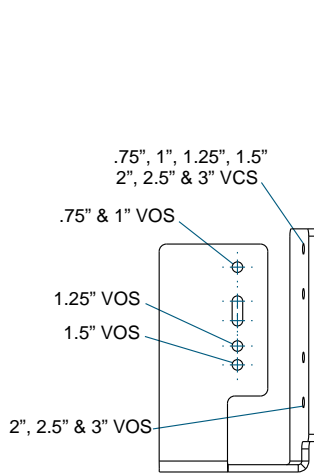

Figure 2:
- Note wand position and mounting hole location. Carefully remove the 2 screws and lift existing switch. --Reference Figures 2 through 7 (page 10-30.3-35) to ensure correct switch location.
- Reference Figures 2 through 7 to ensure correct switch location. Valve size is depicted in the model number by the first 4 digits. For example, a 3" CP valve should have Model No. 300C.